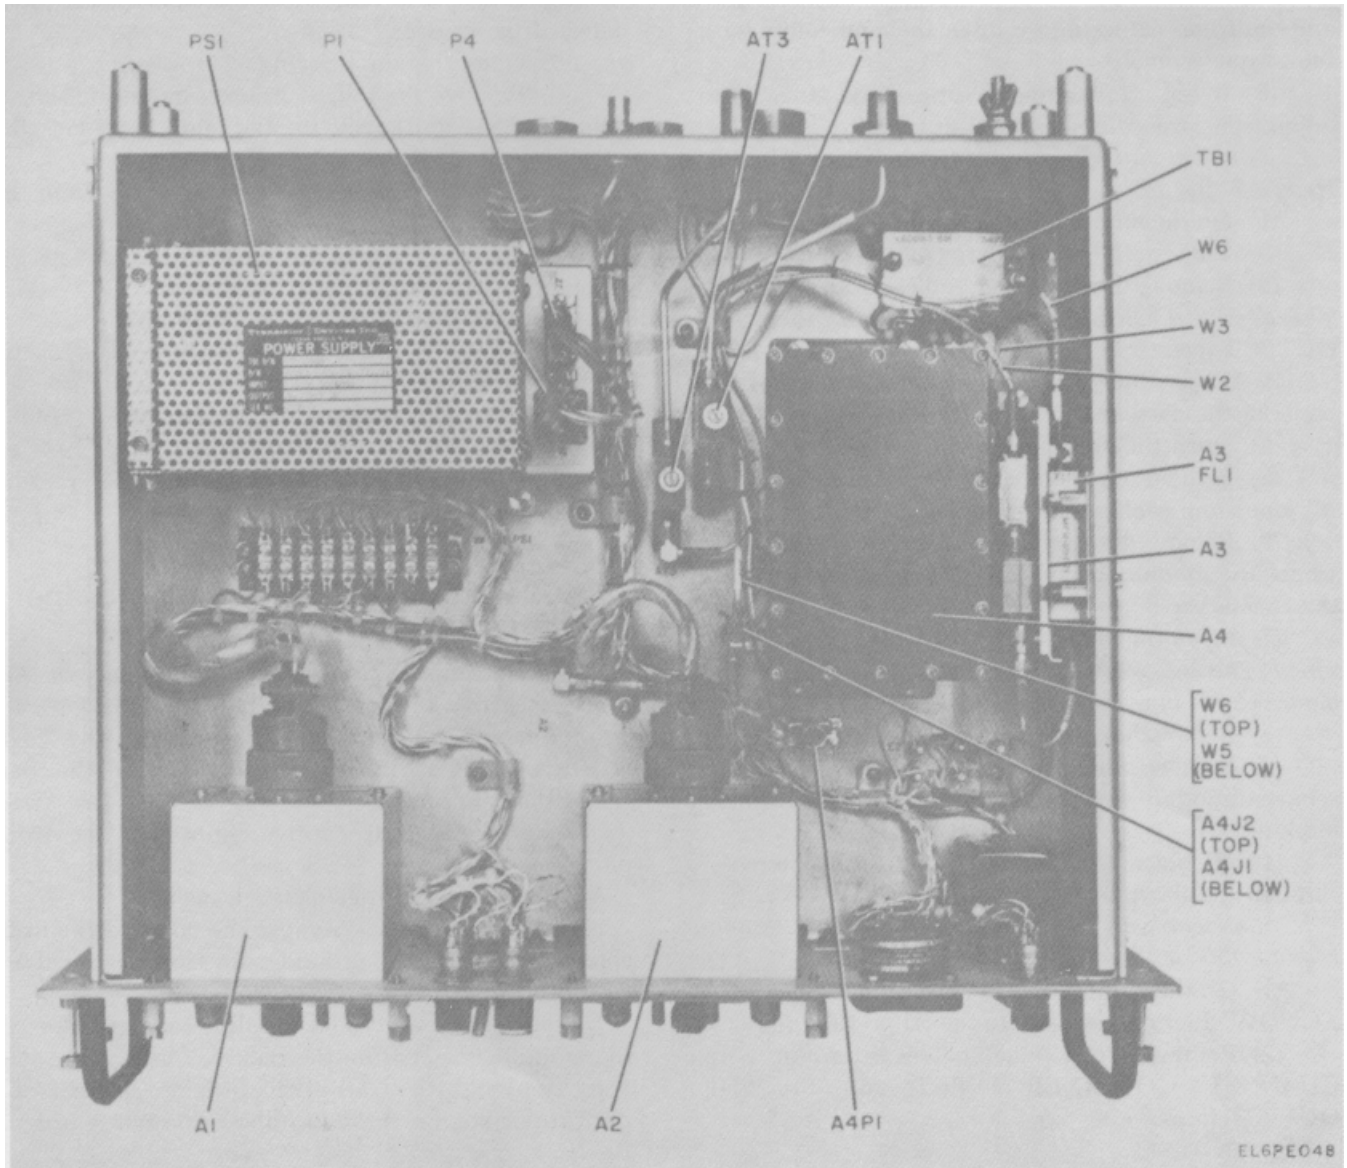

Figure 5-22. LNA Control/Translator, Module Location.
b. See figure 3-5 for location of controls and indicators and figures 5-22 and 5-23 for location of modules and other components. Refer to paragraph 5-41 for replacement of LNA control/translator modules and to paragraph 5-42 for replacement of the LNA control/translator.
5-41. Removal and Replacement of LNA Control/Translator Modules (fig. 5-22)